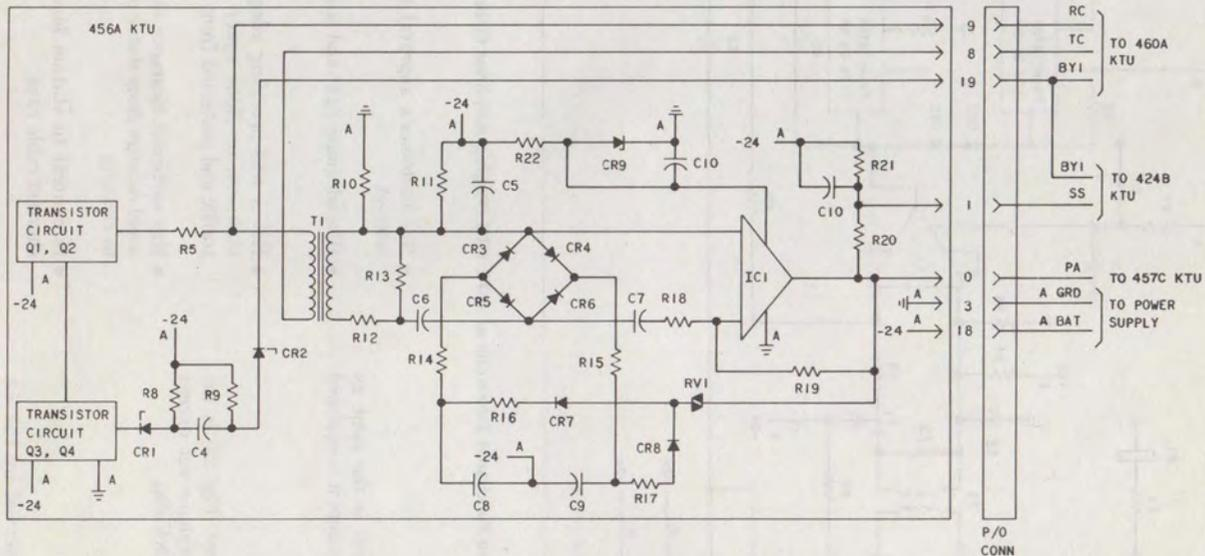

Fig. 19—Condensed Functional Schematic of 456A KTU (Voice and Tone-Alerting Circuit)
2.23 The 456A KTU (Fig. 19) is a 4-inch unit that provides the following features on intercom calls: